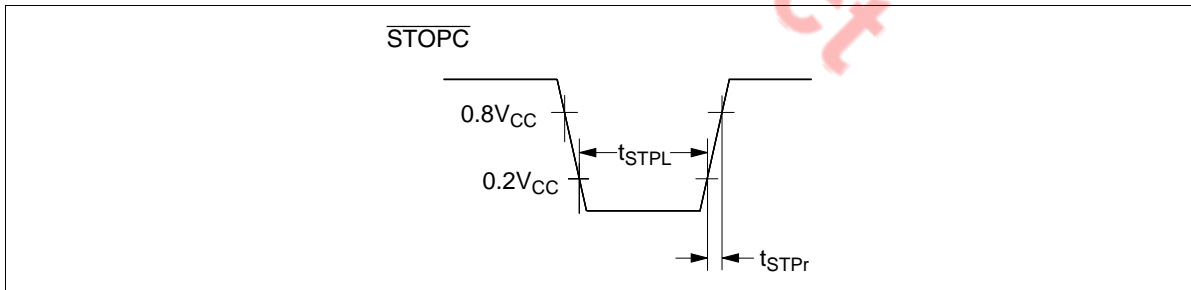

Figure 80 STOPC Timing
- Refer to figure 80.
5. Refer to figure 80.